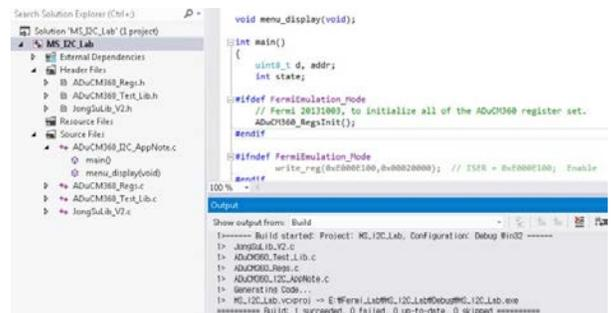

Figure 26. Compile and Link all Sample Codes
7. Compile and link all the sample codes under Visual C++, as shown in Figure 26.
As shown in Figure 26, there are no errors and warnings in the code.